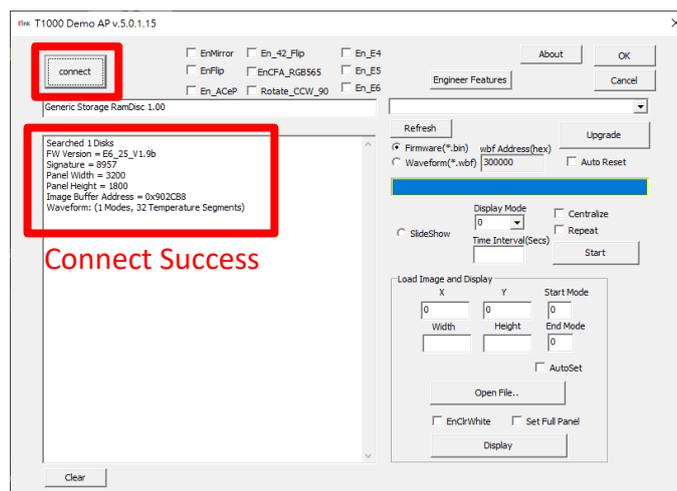

Figure 3.1
- (2) The PC is connected to the Luvia evaluation kit via a Micro-USB cable.
- (3) Execute the "T1000_Windows_AP_x.x.x.xx.exe" software and click the "Connect" button to ensure that the software is successfully connected to the physical drive. (refer to Figure 3.1)